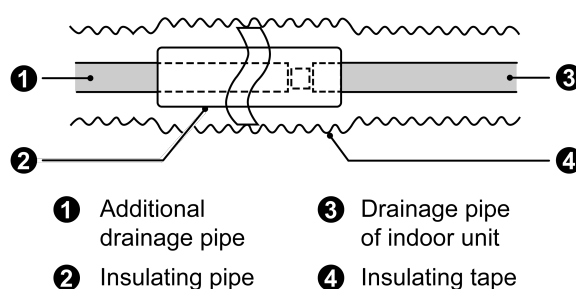

Fig.4.3.1
- (1) It is not allowed to connect the condensate drain pipe into waste pipe or other pipelines which are likely to produce corrosive or peculiar smell to prevent the smell from entering indoors or corrupt the unit.
- (2) Incorrect installation of the indoor unit may result in inadequate drainage, potentially causing bacterial growth and associated health hazards. Inadequate drainage may also lead to corrosion of the unit
- (3) Setting the unit at an angle opposite to the drain piping might cause leaks.
- (4) It is not allowed to connect the condensate drain pipe into rain pipe to prevent rain water from pouring in and cause property loss or personal injury.
- (5) Condensate drain pipe should be connected into special drain system for air conditioner.
- (6) The drainage pipe should be short and the gradient downwards should be at least 1%~2% in order to drain condensation water smoothly.
- (7) The diameter of drainage hose should be bigger or equal to the diameter of drainage pipe joint.
- (8) Install drainage pipe according to the following Fig. and arrange insulation to the drainage pipe (Fig.4.3.1). Improper installation may lead to water leakage and damp the furniture and other things in the room.
- (9) You can buy normal hard PVC pipe used as the drainage pipe. During connection, insert the end of PVC pipe into the drainage hole and then tighten it with drainage hole and wire binder. Can't connect the drainage hole and drainage hole with glue.
- (10) When the drainage pipelines are used for several units, the position of pipeline should be about 100mm (4inch) lower than the drainage port of each unit. In this case, thicker pipes should be applied.